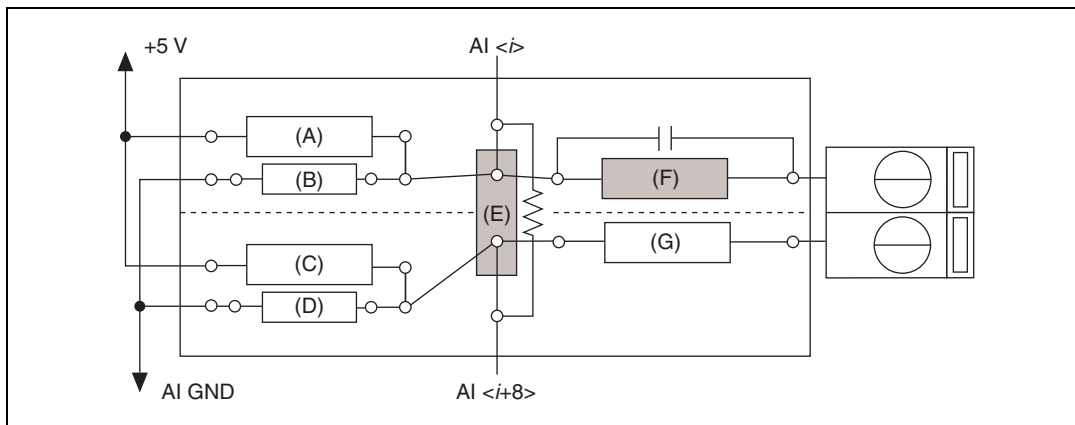

Figure 4-30. SCB-68 Circuit Diagram for Differential Analog Input Highpass Filter
- **Differential analog input highpass filter**—To build a differential lowpass filter, add the resistor to position E and the capacitor to position F, as shown in Figure 4-30. Refer to Table 4-1 for component positions for all analog input channels.